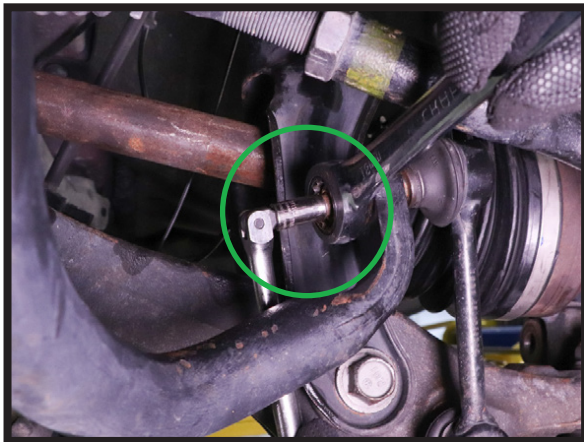

FIGURE 12
11. DISCONNECT SWAY BAR END LINK AND SEPARATE. (FIGURES 12, 13)